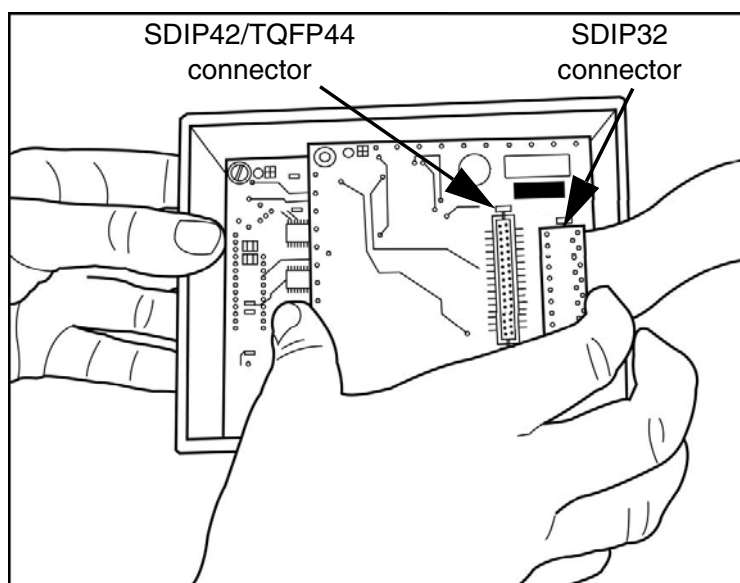

Figure 4: Connecting flex adapter to TEB
- 2 Using Table 1, identify the TEB connectors you must use for your microcontroller's package. Connect the flex adapter supporting your microcontroller package to the appropriate connectors on the bottom face of the TEB. Figure 4 shows a the SDIP32 flex adapter (ref.: DB510) being inserted into its SDIP32 connector.